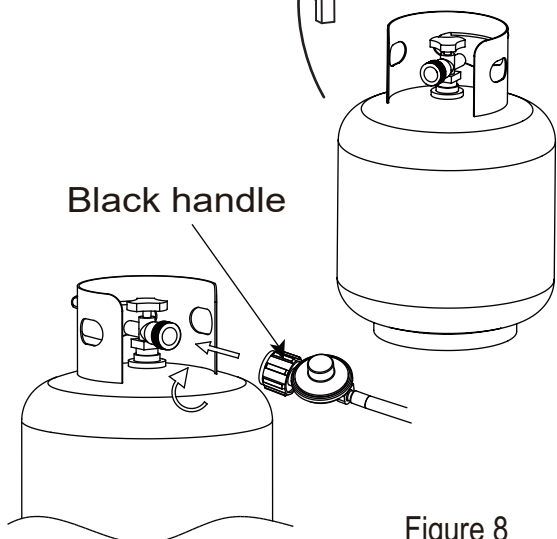

Figure 8
STEP 6: Place the gas cylinder into the cylinder holder (figure 8), secure the cylinder by tightening clockwise the bolt (figure 9) found on the cylinder holder, so the cylinder cannot move from side to side or fall down.